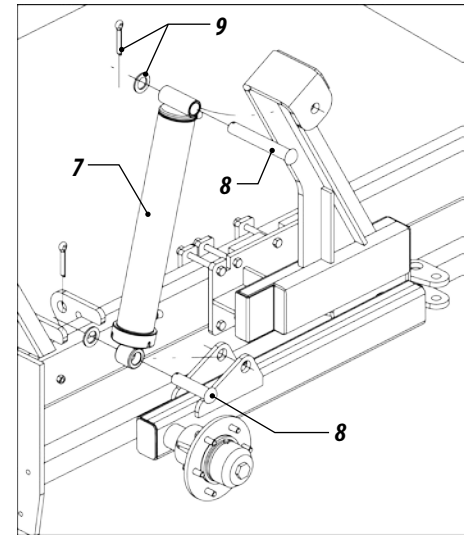

Figure 14
29- Then mount the piston (7) with the coupling pins (8), washers and latches (9), figure 14.